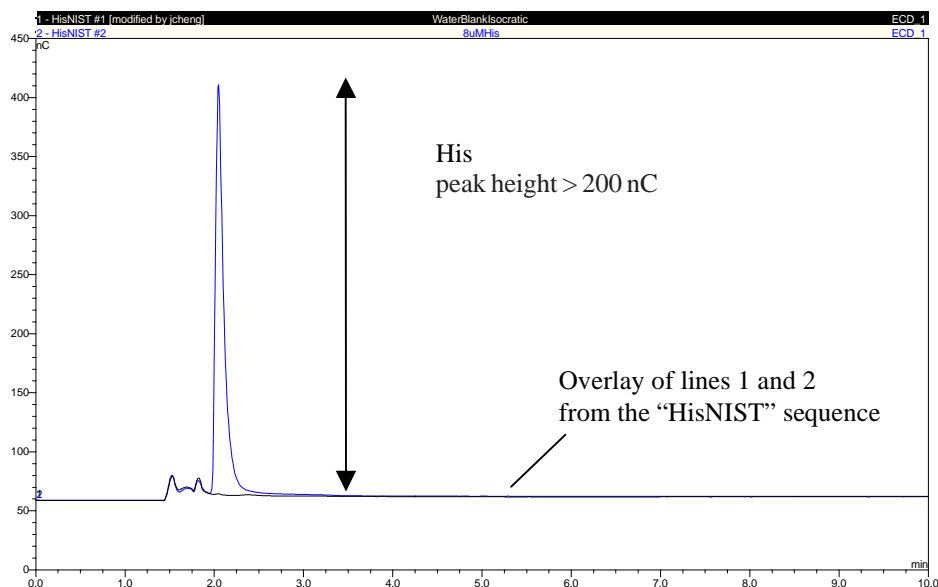

Figure 2
- e) Confirm the peak height for histidine is >200 nC (see Figure 2).